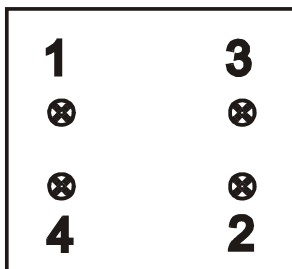

Figure 37. RF Screen Screw Tightening Sequence (I310M/I311M)
3. Apply pressure to the frame only and press firmly into place. Install the four screws alternately, working from side to side. Tighten each to a snug position; finally tighten to 0.9 N-m (8 inch lbs.) using a torque-controlled screwdriver (see Figure 37).
11. Replace the screen assembly. Hand-tighten the four M3 screws in sequence as shown in Figure 37 until snug. Tighten the fasteners in sequence to 0.9 N-m (8 inch-lbs) using a torque-controlled screwdriver. Repeat tightening the fasteners according to the sequence and torque specified.